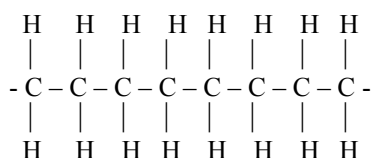

FIGURE 1 PE macromolecule carbon chain
Polyethylene (PE) is a plastic. It is made by combining single carbon atoms together to create long chains of carbon atoms. The long chains are called macromolecules. Attached to each carbon atom are usually two hydrogen atoms. Figure 1 shows how the macromolecule of polyethylene is arranged.